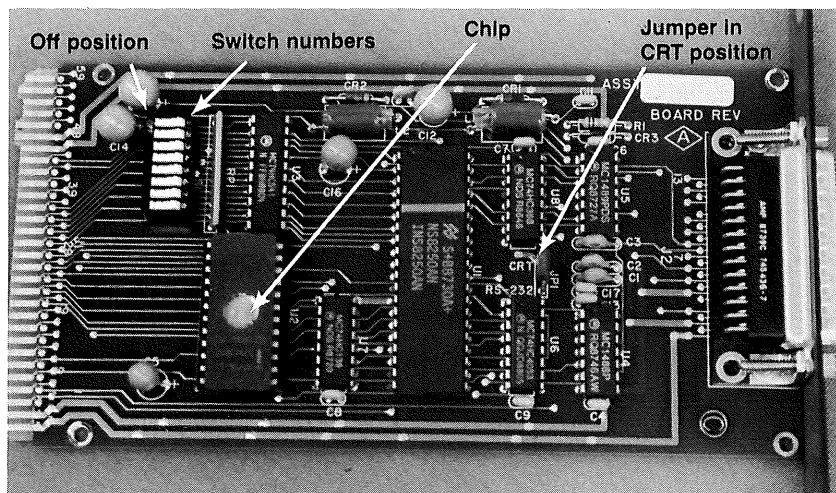

Figure E2.
5. Locate the jumper on the CRT/RS232 board. Verify that it is in the “CRT” position. See Figure E2.
Look at the serial plate on the back of the graphic display to identify the manufacturer. Verify that the switches are in the proper positions using the following table. The switch positions are shown in Figure E2.
7. Press on the chip to verify that it is firmly seated in the socket. See Figure E2.